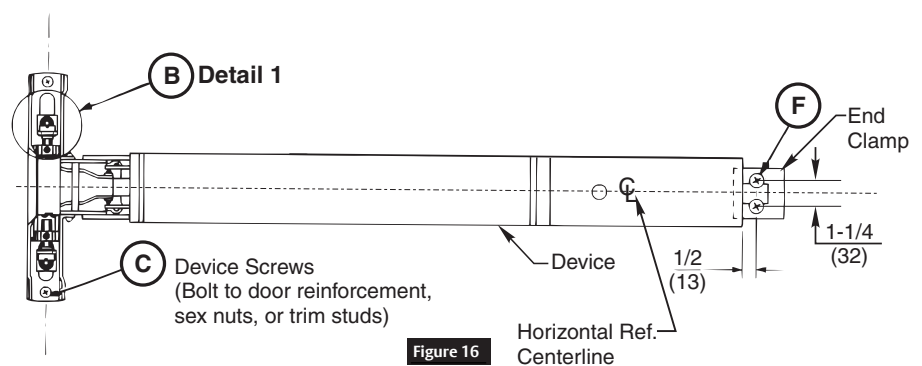

Figure 16
- C. Fasten device latch head using two (2) 1/4-20 PRHMS or 3/8" (10) dia. SNB. (Figure 16)
- F. Prepare end clamp holes and mount end clamp using two (2) 1/4-20 PRHMS or 3/8" (10) SNB. (Figure 16)